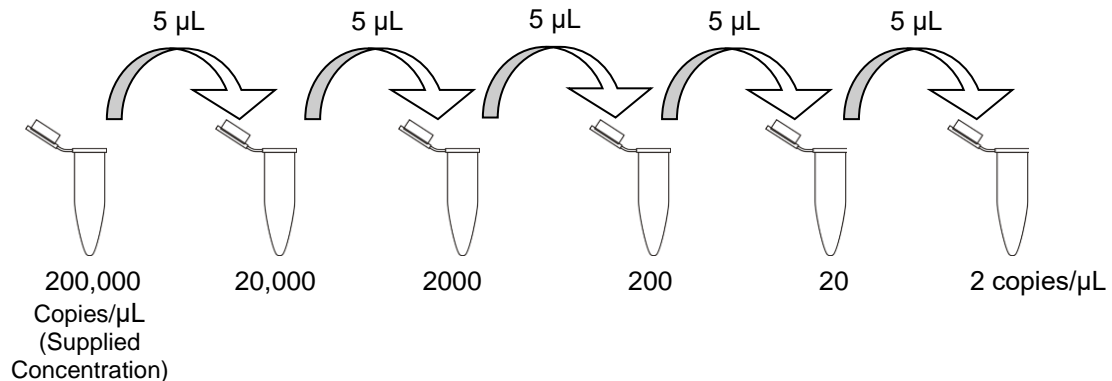

Figure 1: Serial Dilution Preparation
- b. Use 5 μL of the Positive Control Standard supplied with the kit (200,000 copies/ μL) to prepare 5 serial dilutions as outlined in Figure 1.